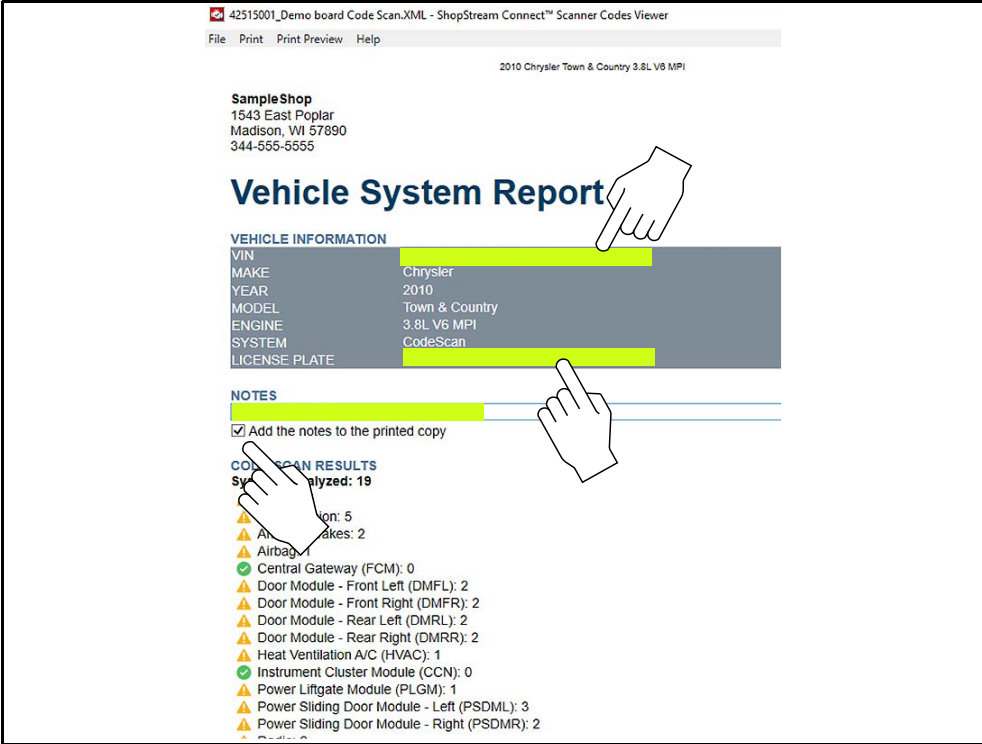

Figure 13-10
- 1. From ShopStream Connect, open the code scan .XML file to be edited (Figure 13-10).
- 2. Click in the editable fields as shown in (Figure 13-10) to change the values or add notes.
- 3. Check the “Add the notes to the printed copy” box to show the notes in the printout (Figure 13-10).